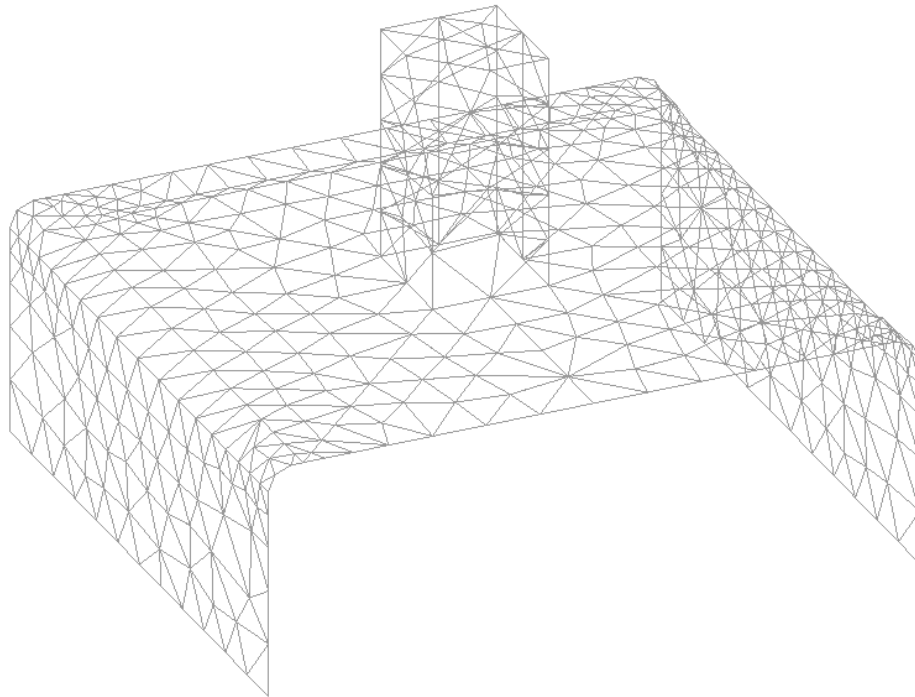

Figure 2. Meshing by default
- 5 . A meshing process window opens. Then another window appears with information about the mesh generated. Click **View Mesh** to visualize the mesh (see Figure 2).